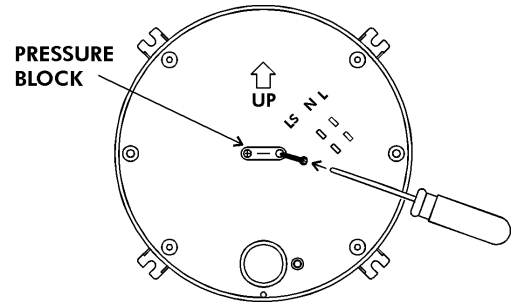

FIGURE 6
- (1) Switch off the power source or wall switch.
- (2) Remove the wall box's back plate then unscrew two screws on the pressure block (FIGURE 6).